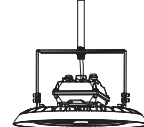

Figure 11
4. After installation, connect the wire of the fixture to the mains according to local wiring rules,ensure the connection is stable and make Good protection on connection.By adjusting the brackets screws,user can adjust 50° to the left or right vertically. (Figure11)